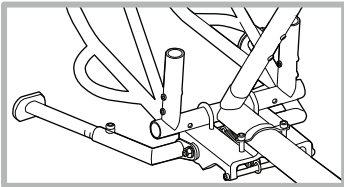

Figure 3
2. Secure the bicycle or frame in an upright position. Remove all cargo and any accessories adjacent to the area so the installation area is easy to access. Place kickstand under the bike and loosely assemble the attachment hardware. U-bolts, M6 lock nuts, and boom strap are identified as items 4, 5, and 6 on page 1 (Figure 3).